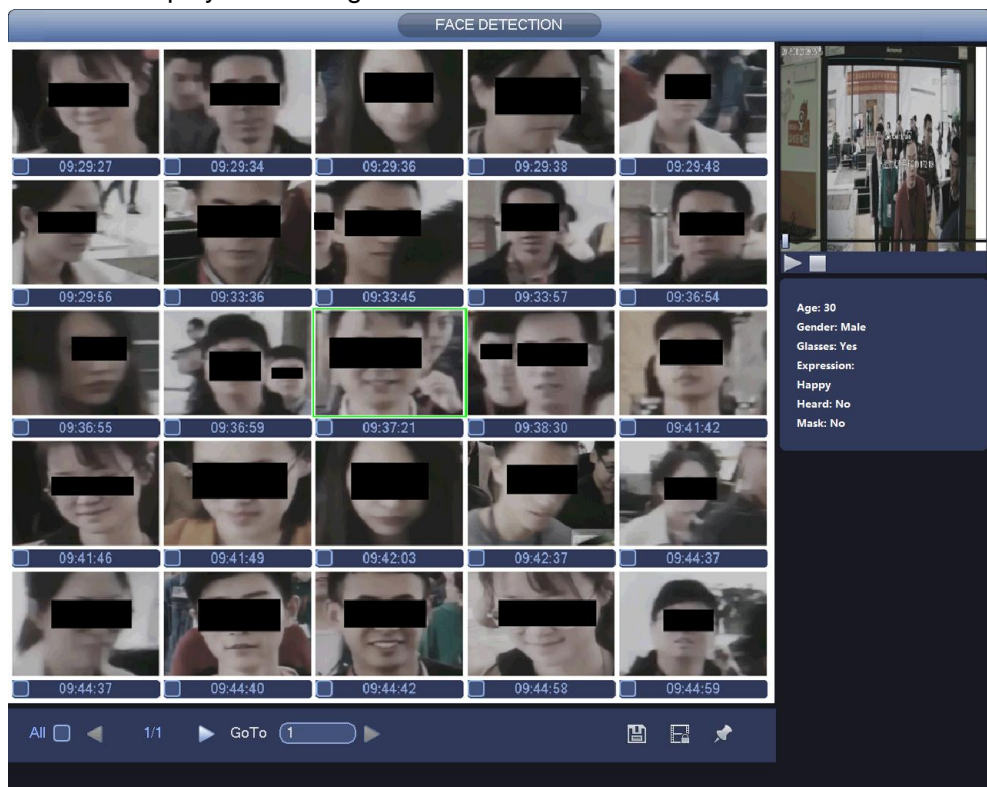

Figure 4-100
- Step 2 Select Channel, Start Time and End Time, and choose the details for face detection as needed, such as gender, age, glasses, mask, and beard. Click Smart Search. The results are displayed. See Figure 4-100.